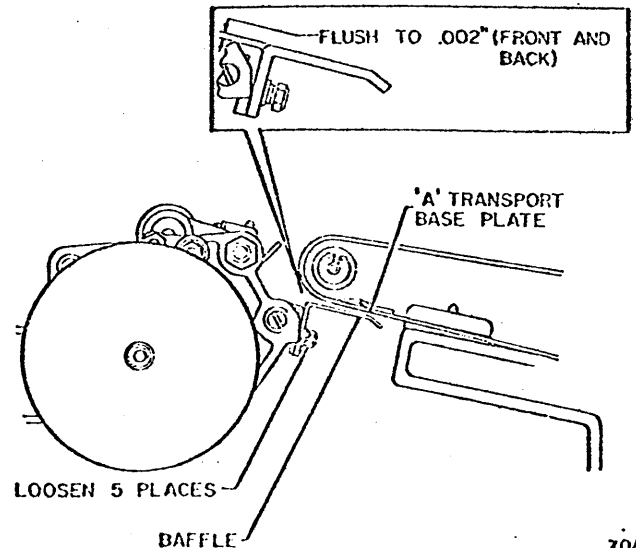

Fig. 3-118. Baffle Adjustment
1. Loosen bolts as shown (five places). See Fig. 3-118.